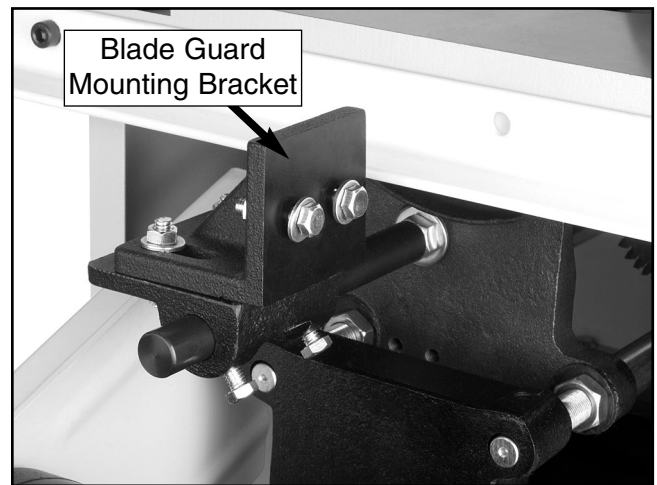

Figure 30. Blade guard mounting assembly.
2. Slide the blade guard mounting bracket onto the end of the shaft (**Figure 30**).